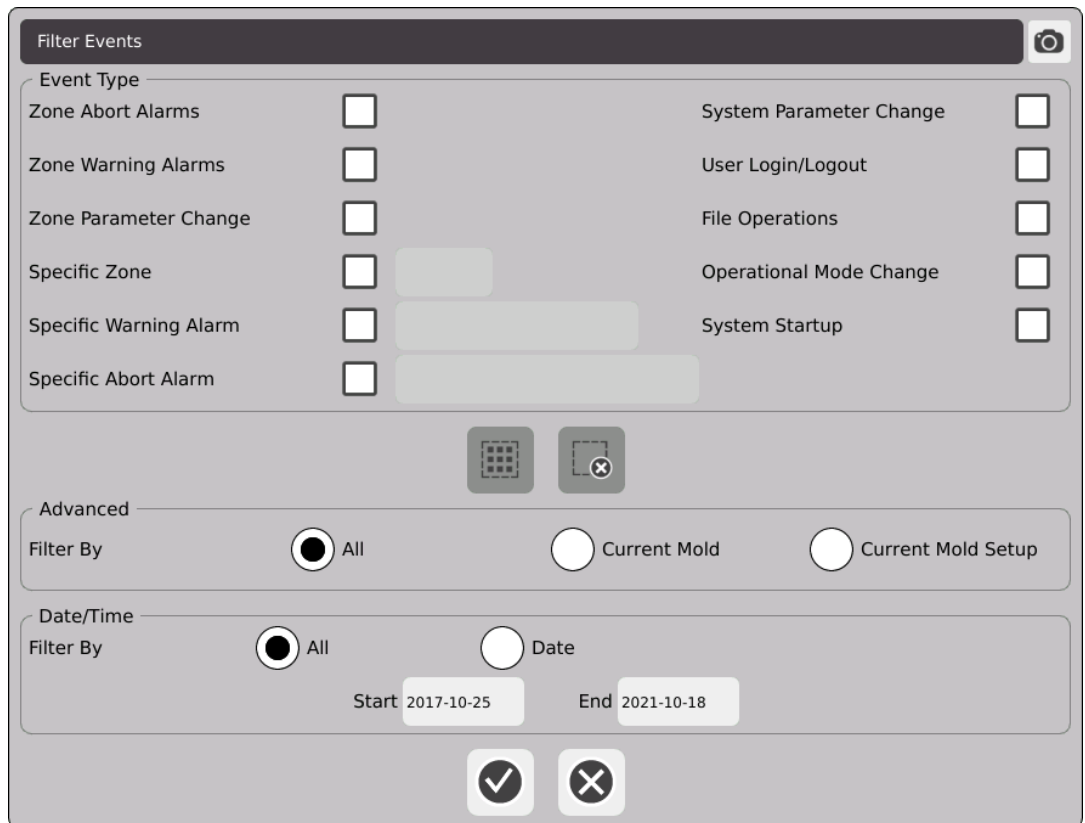

Figure 10-6 Filter Events Screen
2. In the Filter Events dialog the shows (Figure 10-6), select the event types that you want to see.